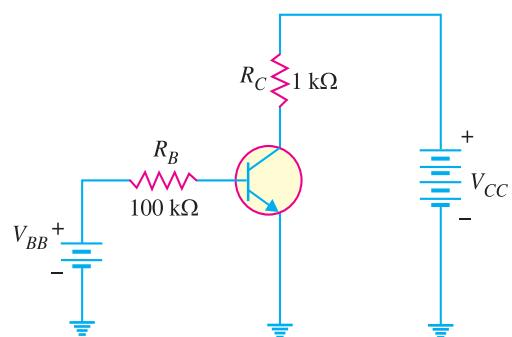

Fig. 8.74
14. A base current of  $50 \mu\text{A}$  is applied to the transistor in Fig. 8.74 and a voltage of 5V is dropped across  $R_C$ . Calculate  $\alpha$  for the transistor. [0.99]